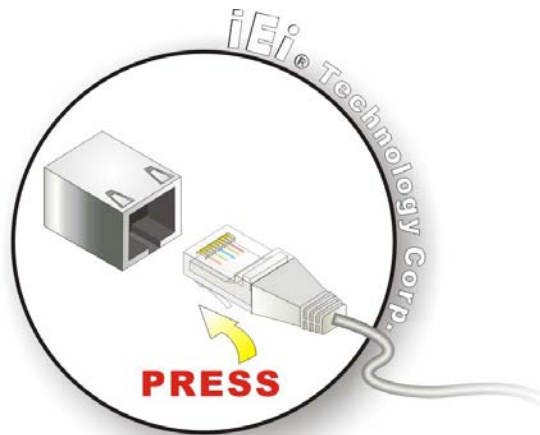

Figure 2-30: LAN Connection
Step 2: **Align the connectors.** Align the RJ-45 connector on the LAN cable with one of the RJ-45 connectors on the bottom panel of the AFL-W19A/17D/W15A-N270. See Figure 2-30..